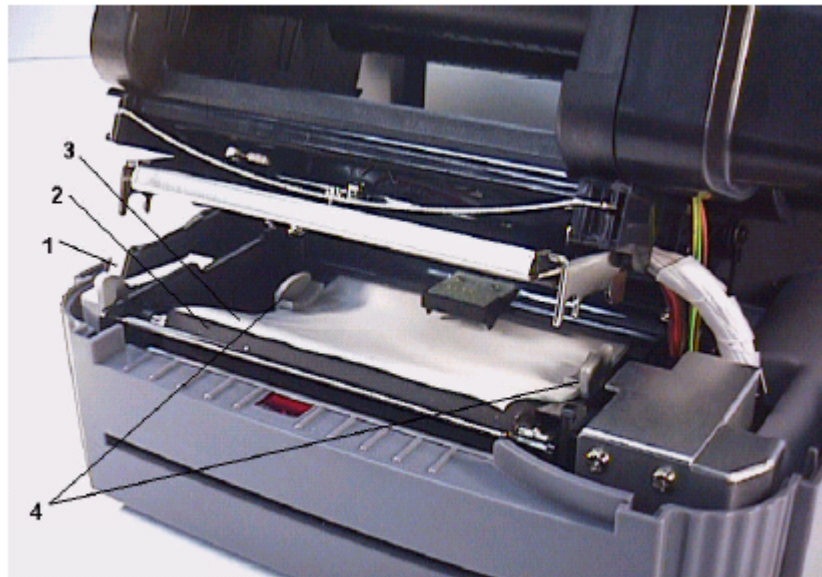

Figure 7. Feed labels through adjustable label guide
- Place the label roll into the label roll mount. Feed the label under the carriage and over the platen (*see figure 7*).